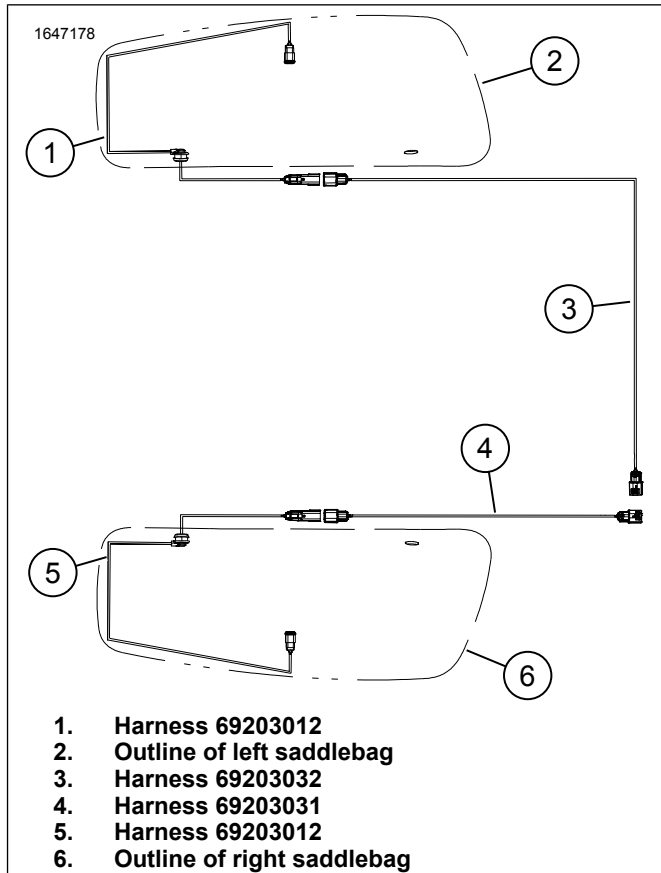
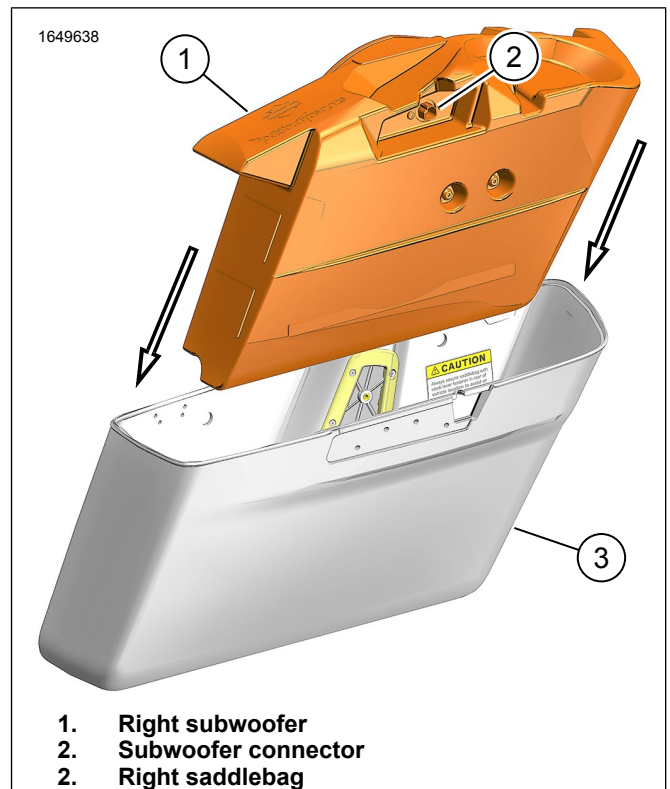

Figure 15. Subwoofer Harness Routing
Figure 19. Install Subwoofer
10. See Figure 15. Install harness 69203012 (5) into right saddlebag.
11. See Figure 15. Connect harness 69203031 (4) to harness 69203012 (5).
15. See Figure 19. Install subwoofer (2).
16. See Figure 15. Connect harness 69203012 (5) into subwoofer connector (2). See Figure 19.
2. See Figure 15. Install harness 69203012 (5) into right saddlebag.
3. See Figure 15. Connect harness 69203032 (3) to harness 69203012 (5).
- See Figure 19. Install subwoofer (2).
- See Figure 15. Connect harness 69203012 (5) into subwoofer connector (2). See Figure 19.